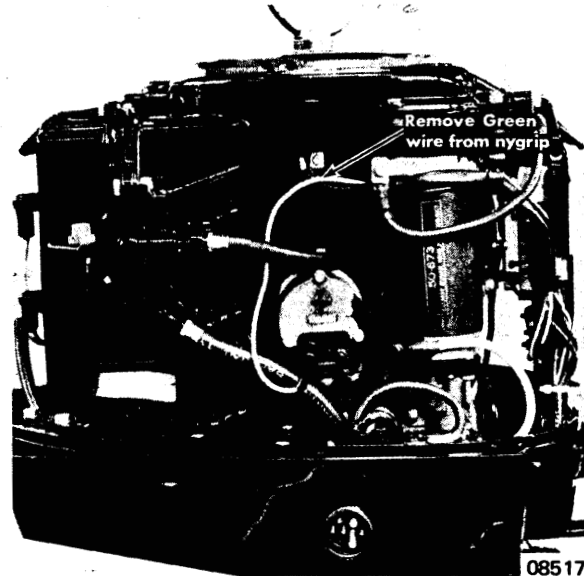

Figure 3. Wire Routing
(2) Serial No. 3866325 and below - Remove green switch box to coil wire from nygrip and route as shown in Figure 3.